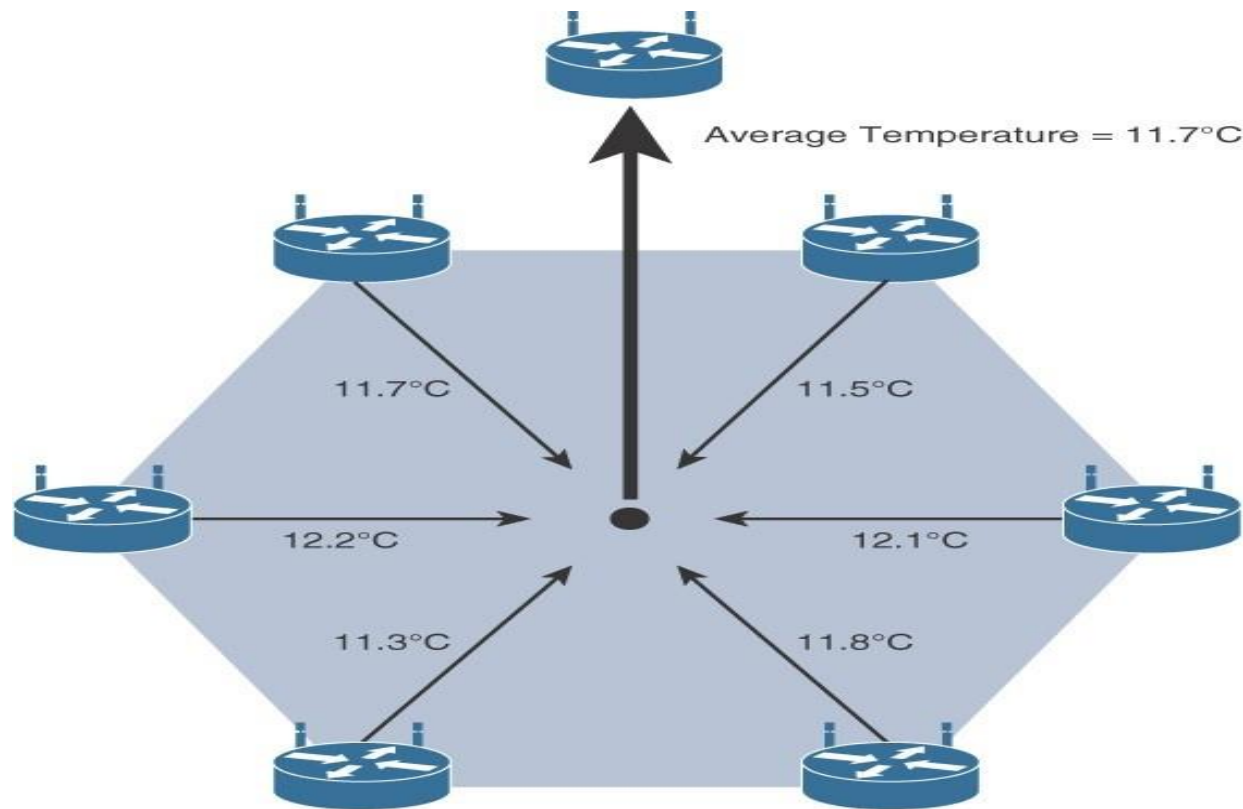

Figure 3-9 *Data Aggregation in Wireless Sensor Networks*
- Figure 3-9 shows an example of such a data aggregation function in a WSN where *temperature readings from a logical grouping of temperature sensors are aggregated as an average temperature reading.*